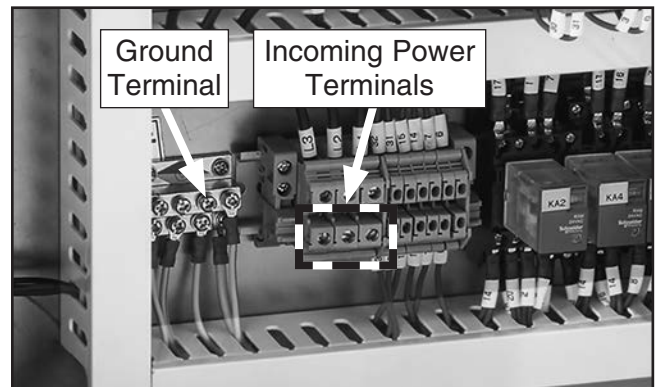

Figure 20. Terminal locations to connect ground wire and incoming power wires.
3. Connect ground wire to an open ground terminal, then connect incoming power wires to terminals shown in **Figure 20**.